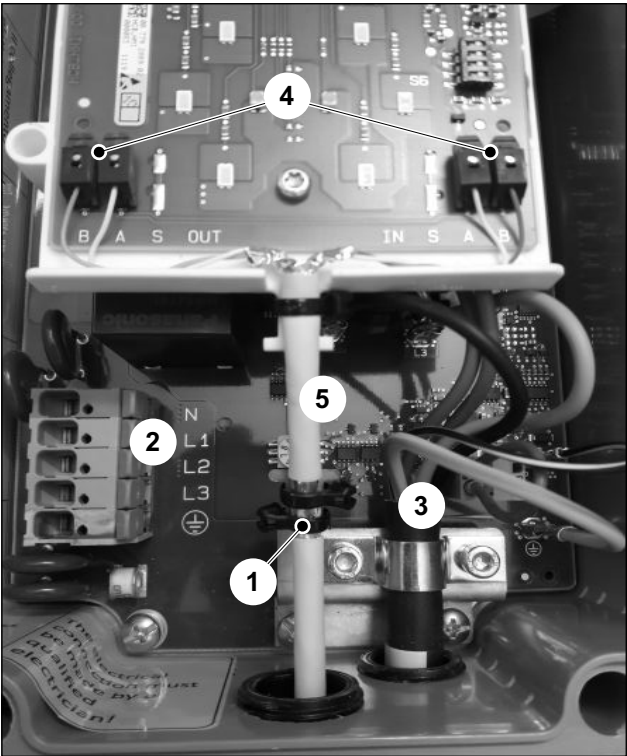

Fig. 7 Cable routings for central wiring
The individual wires of the power supply unit (Fig. 7/2) and of the charging cable (Fig. 7/3) must be laid at the greatest possible distance from the bus line.
- 3. Fasten the exposed shield to the shield support with one or two cable ties (Fig. 7/1).
- 4. Strip four individual wires approx. 8 mm and connect these to the appropriate terminals (Fig. 7/4).
The bus line must be jacketed between the shield support and connection board (Fig. 7/5).